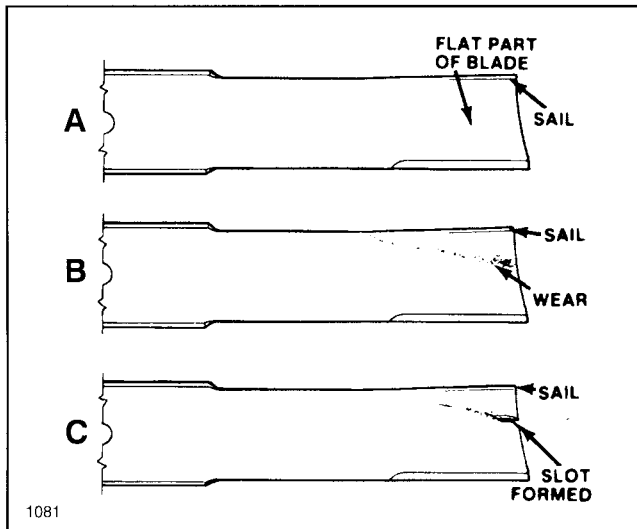

Figure 13
1. Examine cutting ends of the blade carefully, especially where the flat and curved parts of the blade meet (Fig. 13-A). Sand and abrasive material can wear away the metal that connects the flat and curved parts of the blade. Check the blade(s) before using the mower. If wear is noticed (Fig. 13-B), replace the blade(s).